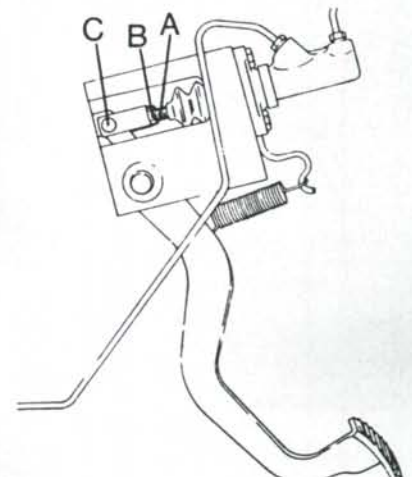

Fig. 162—Remove pin (C) from rod (A) and loosen locknut (B), and adjust master cylinder as outlined in paragraph 215.
After repairing or renewing master cylinder, adjust as follows: With pedal against return stop screw, adjust clevis until pin (C—Fig. 162) will fit easily into clevis and clutch pedal with push rod (A) lightly contacting master cylinder piston. Be sure piston is not being pushed into cylinder when making this adjustment.